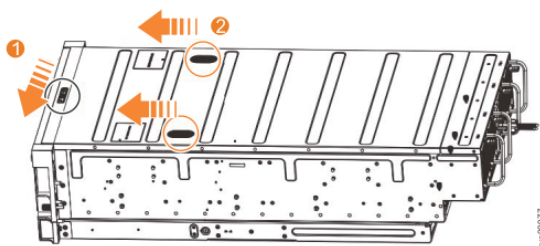

Figure 119. Releasing the 5U expansion enclosure cover
2. Slide the release latch (**1**) in the direction that is shown in Figure 119 on page 177.
3. Slide the cover toward the front of the expansion enclosure (2), as shown in Figure 119 on page 177.